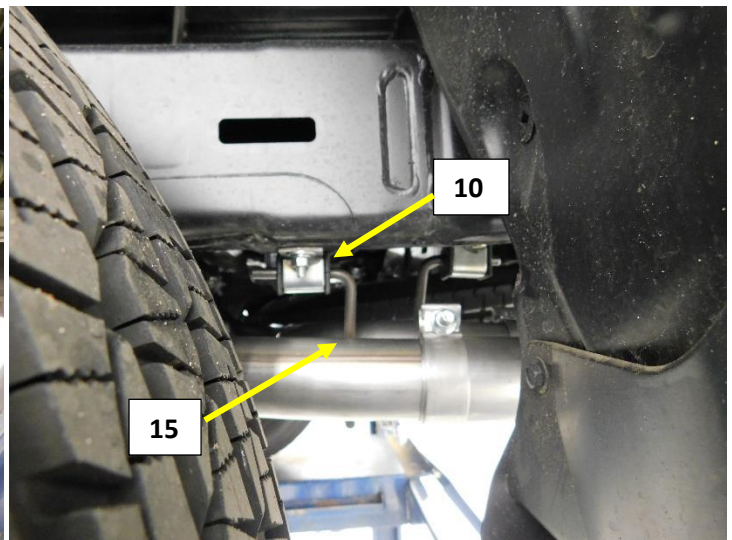

Figure.15
12. Install a supplied tail pipe frame hanger **(10)** on to the left tail pipe hanger rod **(15)**. Rotate the tail pipe up and position the frame hanger on to the bolt **(18)** installed into the frame rail, install a flat washer, lock washer and nut. Use the magnet or screwdriver in place to help hold the bolt as the washers and nuts are installed. **Fig.15**